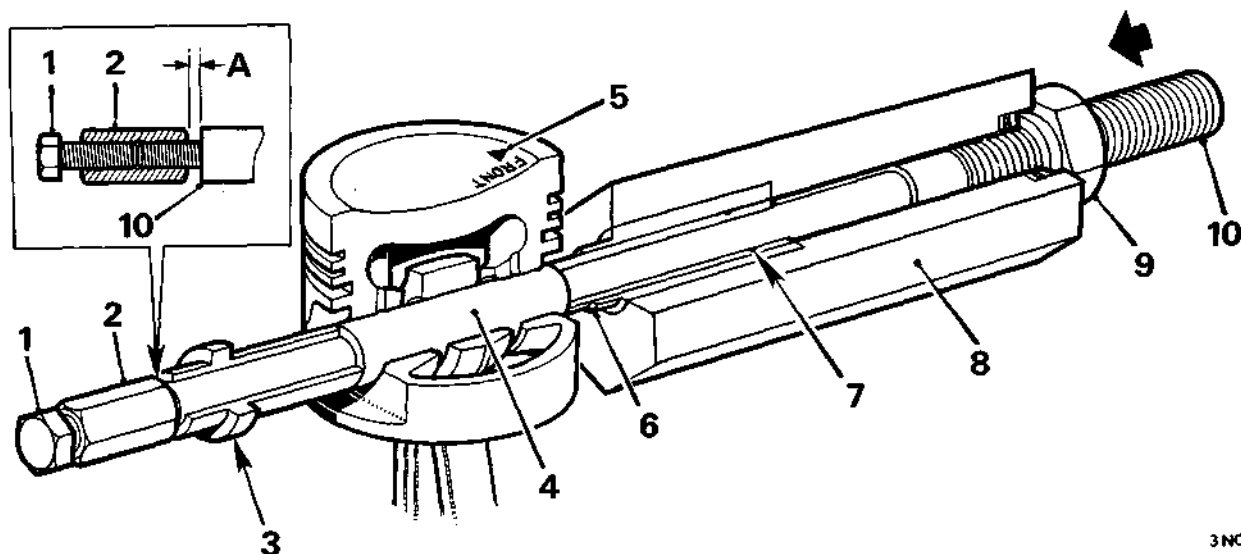

Fig. A.32
12. Screw the stop nut onto the centre screw and adjust to the correct end-float ('A' Fig. A.32). Lock the stop nut securely with the lock screw.